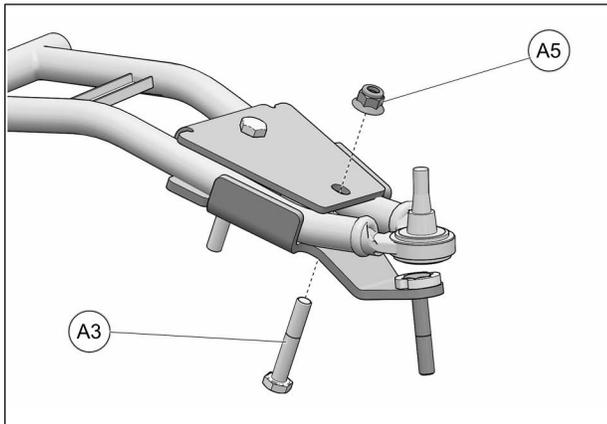

Fig. 20
7. Insert the M10x60 mm bolt (A3) through the bottom as shown below and secure the two parts together with the M10 nut (A5) provided. Tighten assembly to 50 Nm [37 lb•ft] of torque. See Fig. 20